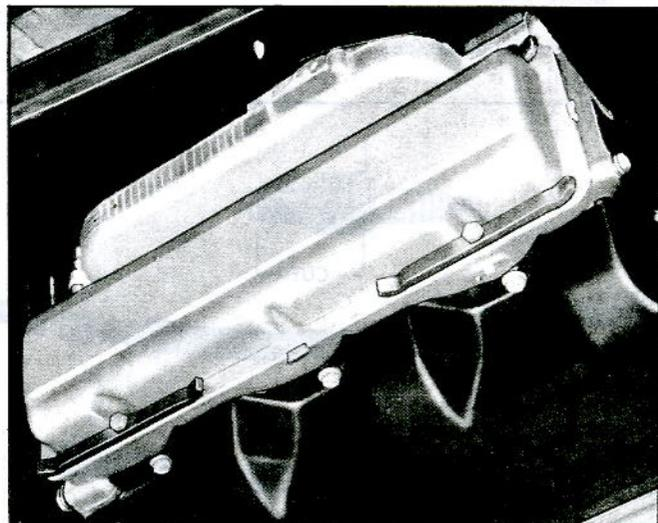

Fig. 36—Rocker Arm Cover Installed
- Using new gaskets, install the valve rocker covers and torque to specifications (fig. 36).